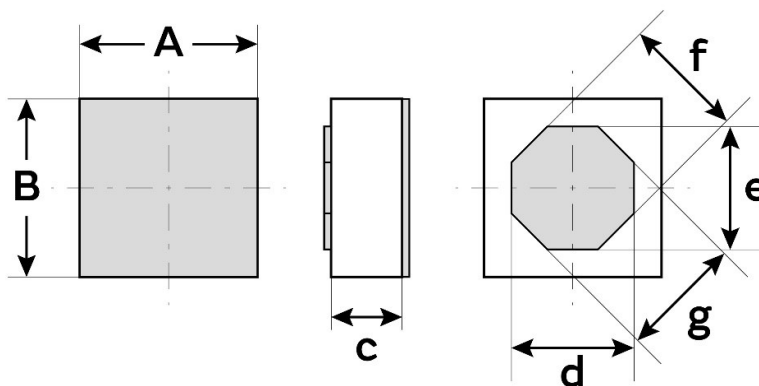

Figure 7 - Package outline drawing
- (1) Other film frame carrier are possible on request
- (2) Au = TiW (0.3µm) / Au (3µm)
- (3) Refer to Figure7.